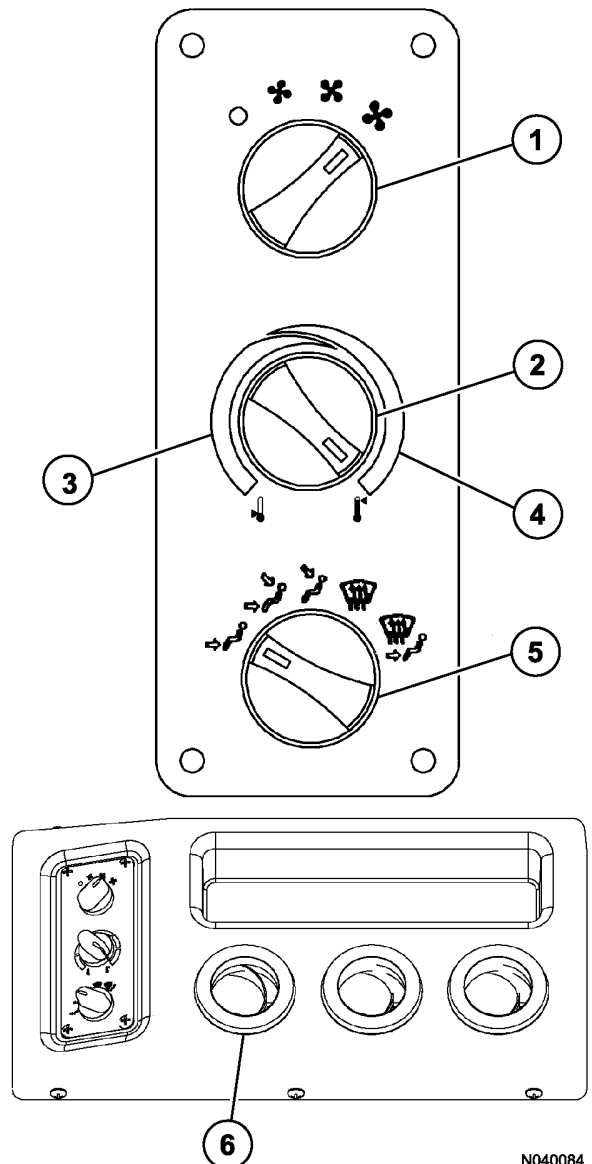

FIGURE 32-6. A/C & HEATER CONTROLS
Fan speed control knob (1, Figure 32-6) is provided to control the cab air fan motor. The fan motor is a 3-speed motor (low, medium and high). Speeds are selected by rotating the control knob clockwise to the desired position. OFF is in the full counter-clockwise position. The control knob must be switched ON for the air conditioner to function.
Temperature control knob (2, Figure 32-6) allows the operator to select a comfortable air temperature.
- Air flow directional knob (5, Figure 32-6) controls the direction of airflow as follows:
Heater/air conditioner vents (6, Figure 32-6) may be rotated 360°. There are three vents in the heater/air conditioner compartment, four vents across the top of the instrument panel, and one vent each in the RH and LH instrument panels. There are also an additional four vents under the instrument panel. Air flow through the vents is controlled by manually opening, closing or turning the louvers.